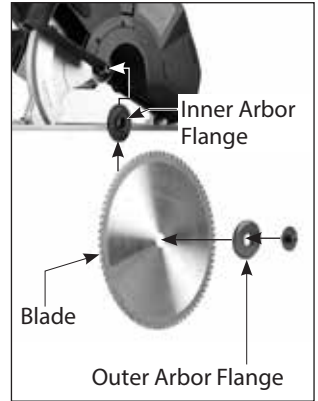

Fig.2
3. Place the outer arbor flange on the arbor with the correct side toward the blade. See fig.2